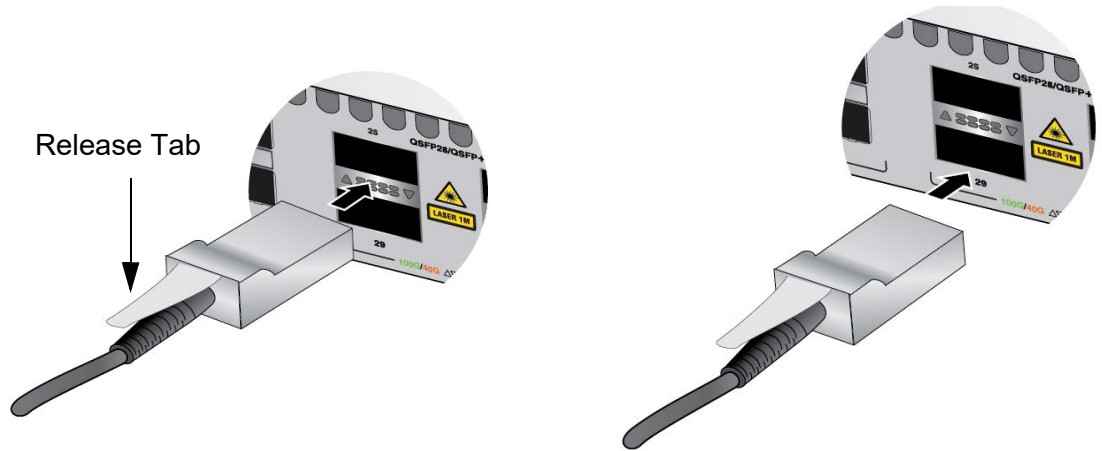

Figure 123. Attaching QSFP+ Cables
- Figure 123 on page 195 shows the orientations for QSFPcU Cables installed in base ports 25 to 37.